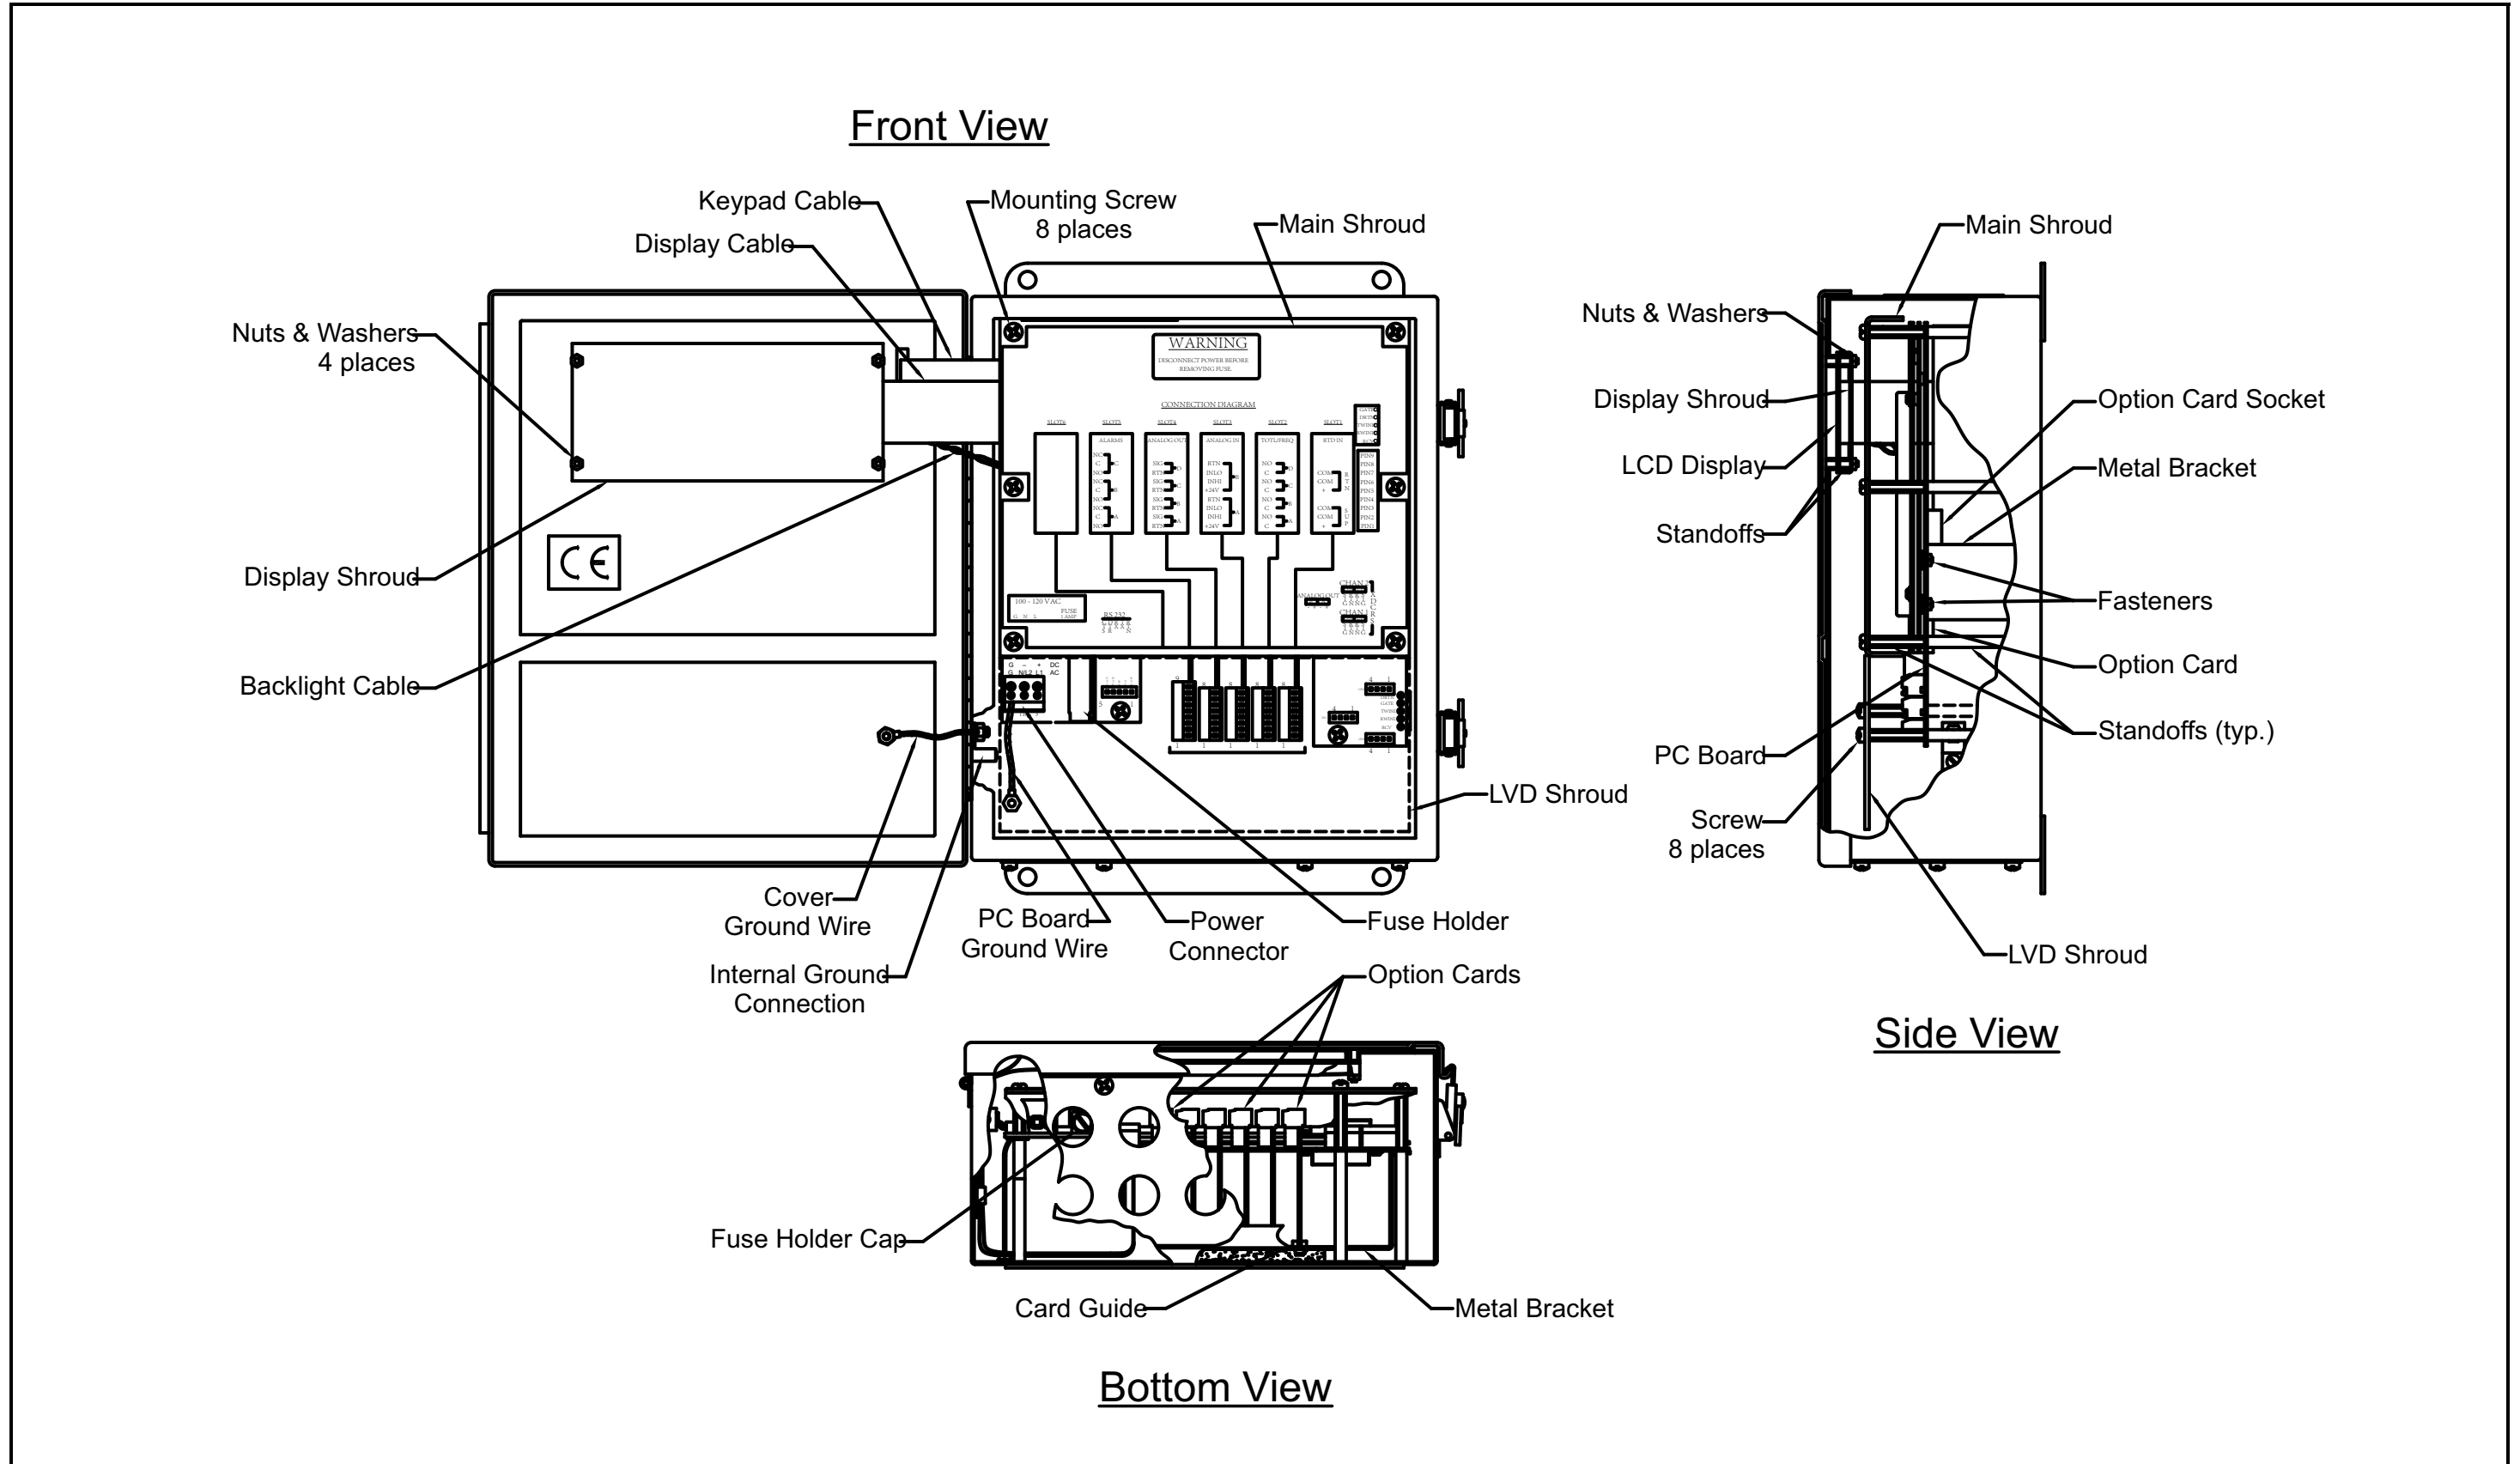
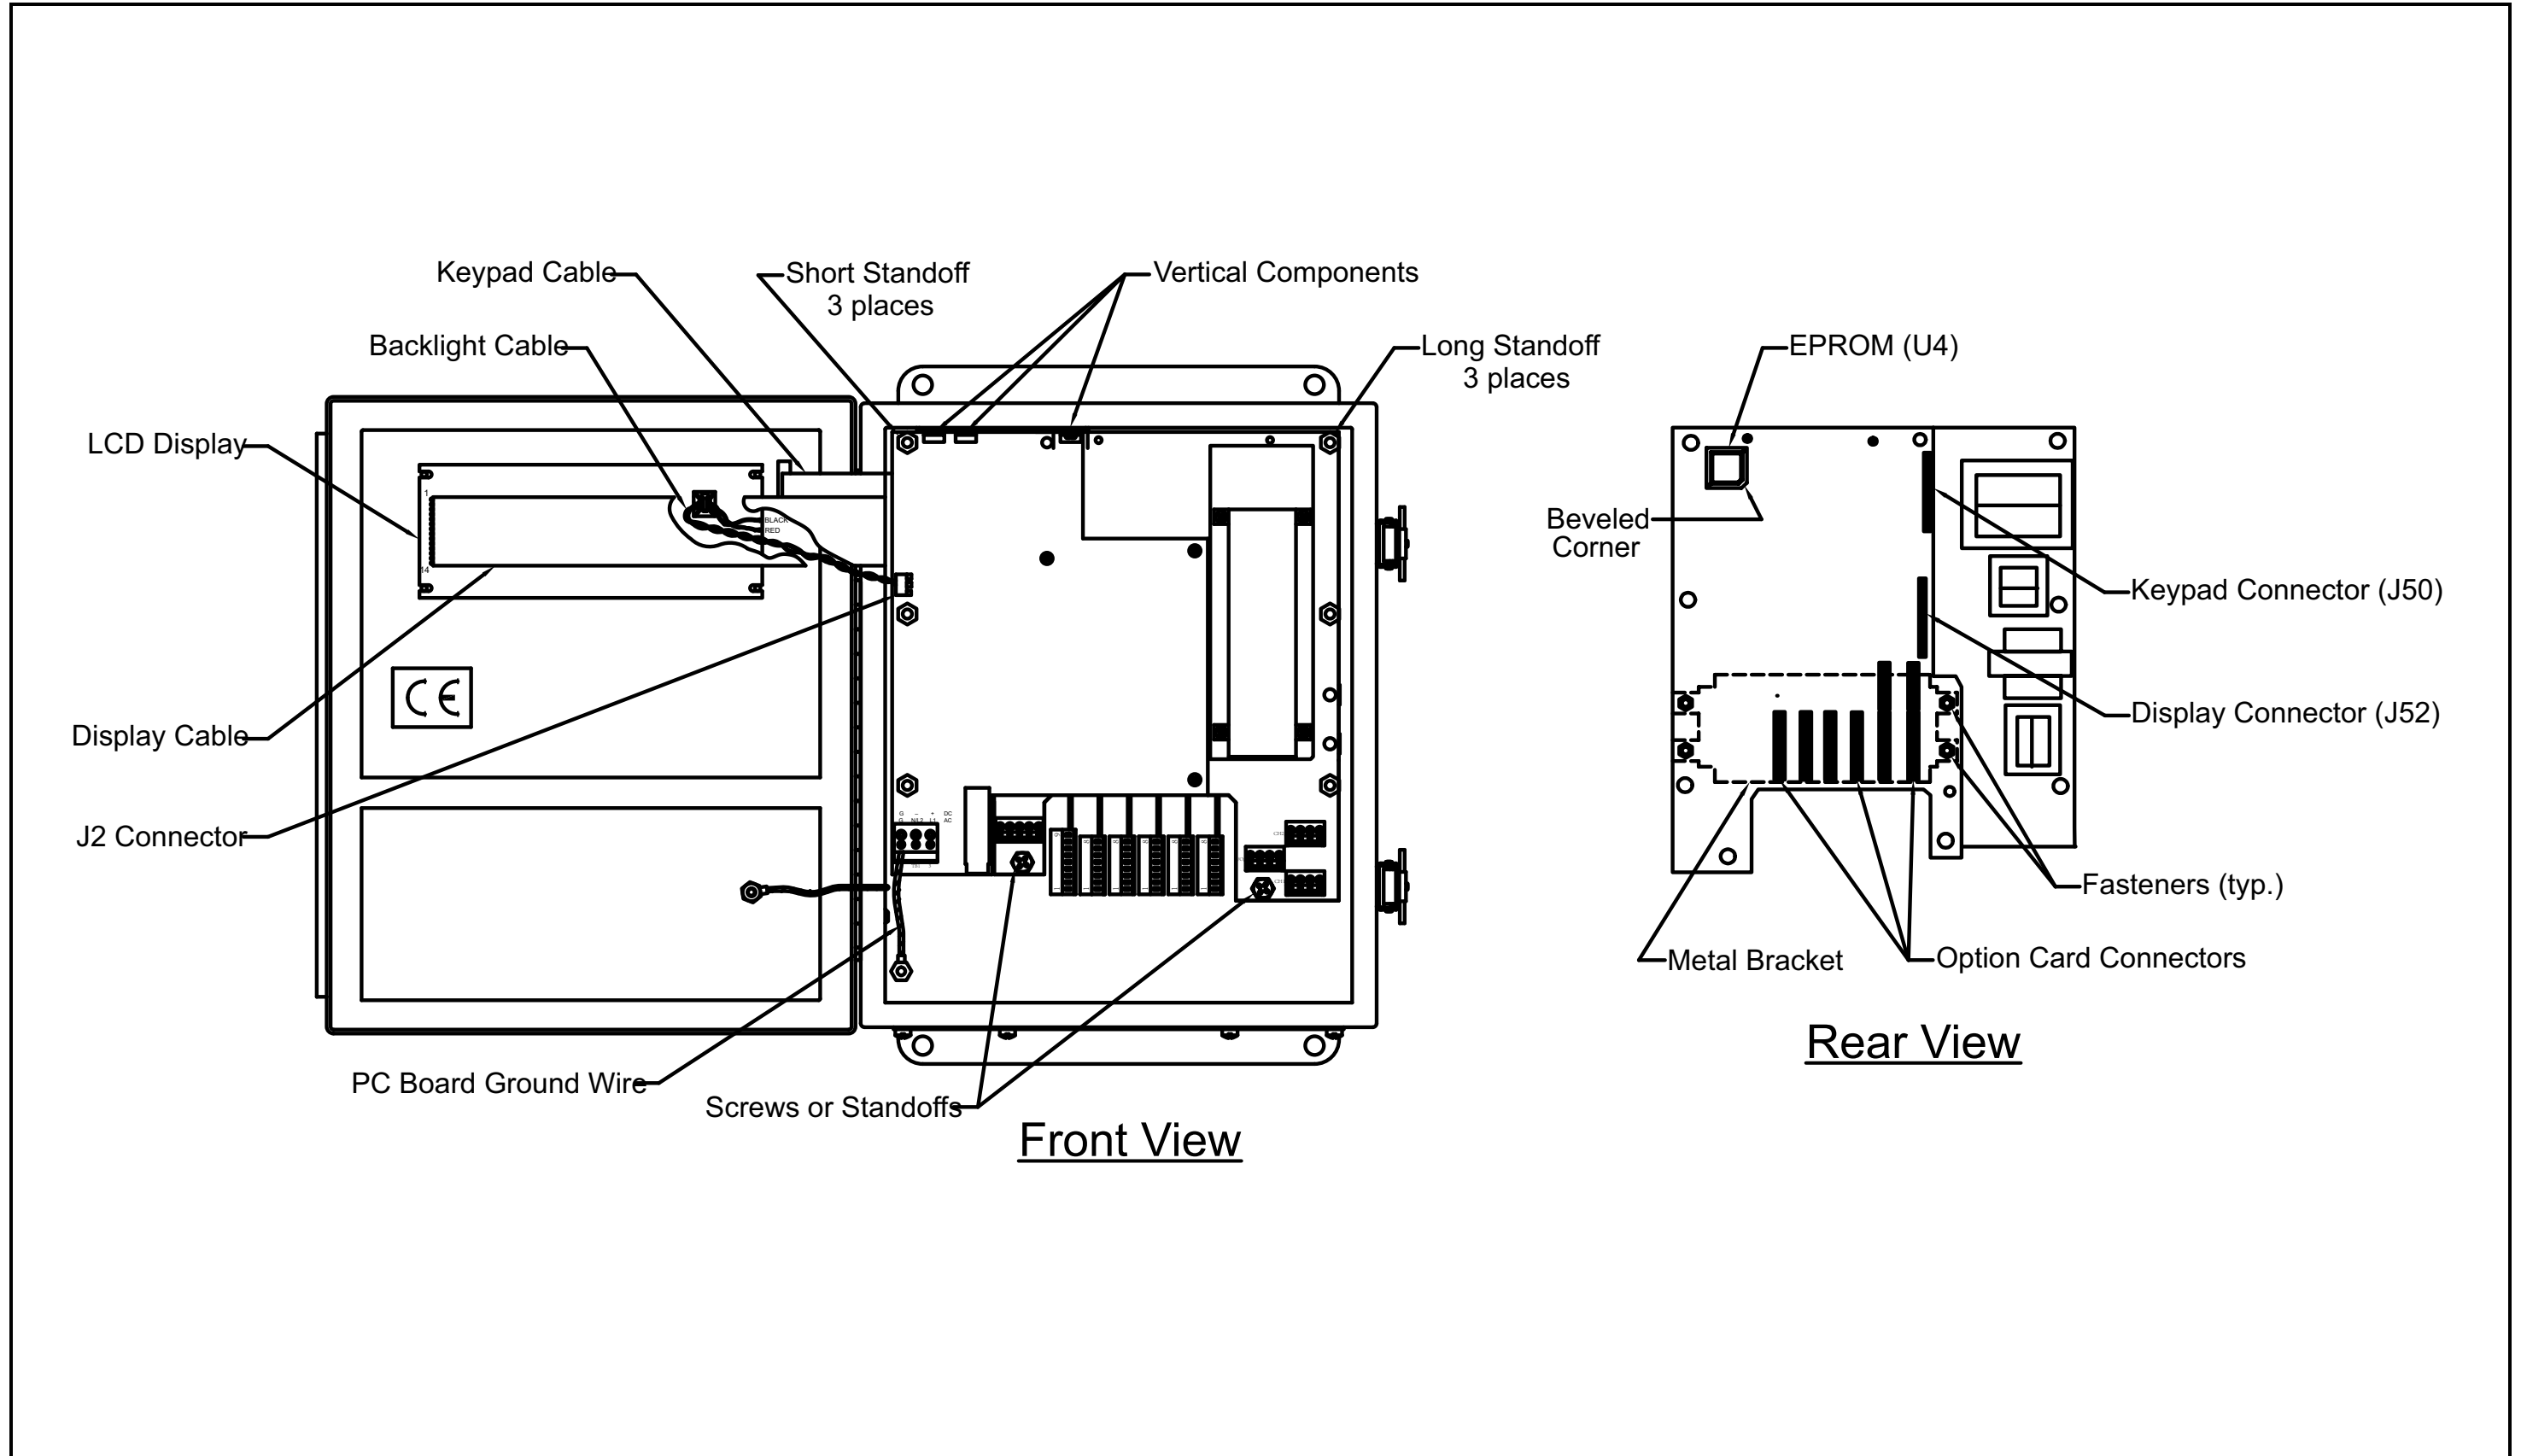

Figure 8: Standard Model GM868 - Electronics Console Assembly
Figure 9: Standard Model GM868 - Printed Circuit Board Assembly
All of the remaining maintenance procedures discussed in this chapter require removing the printed circuit board. To accomplish this task, refer to Figure 8 on page 41 and Figure 9 on page 42 while completing the following tasks:
CAUTION! During this procedure, be very careful not to damage the upright components along the top edge of the printed circuit board (see Figure 9 on page 42). Severe or repeated bending of these components will break their leads.
The Model GM868's *User Program* is stored on an erasable programmable read only memory (EPROM) chip. The EPROM, which is designated as component U4, is located in the top left corner of the rear of the printed circuit board (see Figure 9 on page 42). EPROM replacement may be required to replace a defective chip or to upgrade to a newer software version. To replace the EPROM, complete the following steps:
To install an option card, refer to Figure 9 on page 42 and complete the following steps:
5. Place the metal bracket over the option cards, making sure that all option cards are aligned with the plastic card guides in the bracket. Secure the metal bracket to the printed circuit board with the snap rivets provided. See the installed assembly in Figure 8 on page 41.
The Model GM868's measurements are displayed on a two-pane LCD graphic display panel. The LCD display normally provides years of dependable service, but it is easily field-replaceable when necessary. To replace the LCD display, see Figure 8 on page 41 for the component locations, and complete the following steps:
4. Place the new LCD display assembly over the mounting studs on the console cover and fasten it in place with the four standoffs. Make sure that the LCD display assembly is oriented as shown in Figure 9 on page 42.
Whether the printed circuit board was removed for replacement or for one of the other procedures discussed in this chapter, reinstallation of the printed circuit board is the final step in the process. Refer to Figure 8 on page 41 and complete the following steps:
During this procedure, be very careful not to damage the vertical components along the top edge of the printed circuit board (see Figure 9 on page 42). Severe or repeated bending of these components will break their leads.
1. Position the printed circuit board within the electronics console with the top edge tilted forward. Insert the display ribbon cable and keypad ribbon cable connectors into their sockets on the rear of the printed circuit board. See Figure 8 on page 41 and Figure 9 on page 42 to identify the cables and sockets. Note that the keypad cable connects to the upper socket and the display cable connects to the lower socket.